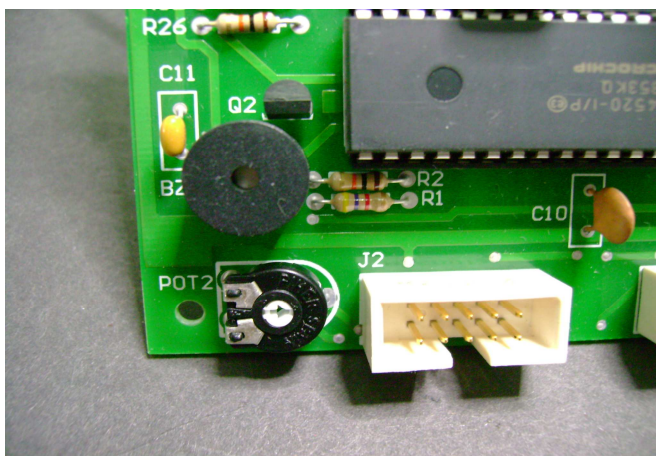

Fig. 4
a) It may be necessary to adjust the LCD contrast. To perform this operation, turn on the equipment. Locate the adjustment potentiometer on the “Logic Board” (refer to section “XI”) “POT2”. Using a screwdriver, the contrast may be increased by rotating the pot in the counter clockwise direction. To decrease the contrast, rotate the pot in the clockwise direction (See Fig. 4)